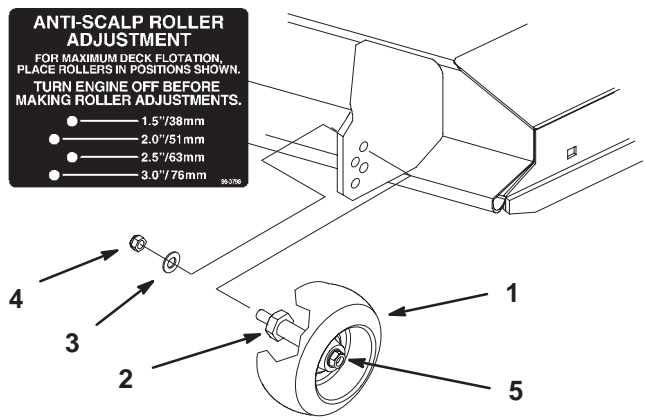

Figure 20
2. After adjusting height-of-cut remove flange nut and spring disk while holding stud with wrench (Fig. 20).
Note: Do not remove the wheel nut and washer (Fig. 20).
3. Select hole so gage wheel is positioned to the nearest corresponding height-of-cut desired (Fig. 20).
4. Reinstall the flange nut and spring disk. Torque to 40–45 ft–lbs. (54.2–61.0 N•m) (Fig. 20).